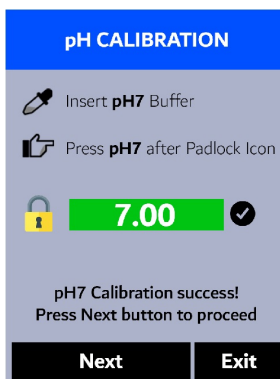

Figure 44.
9. If the calibration succeeds, a checkmark () and a "pH7 Calibration success!" message will appear (Figure 44). Otherwise, a warning message is displayed.